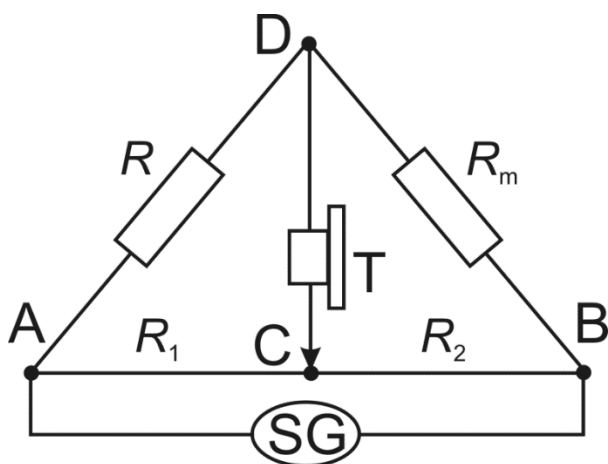

Figure 472.1. Circuit of setup
The resistance is measured using a Wheatstone bridge and alternating current (Fig. 472.1); here AB is the sliding wire (rheochord) with
1. If necessary, assemble the circuit according to Fig. 472.1. Turn on the sound generator SG with a quick button press. Find the balance: choose appropriate R_m in the magazine so that the sound disappears when the slider C is not too close to the terminals of the wire. Write down the resistance R_m and the room temperature T . Measure the bridge legs l_1 and l_2 and find the resistance of the solution R_x using Eq. (472.3).